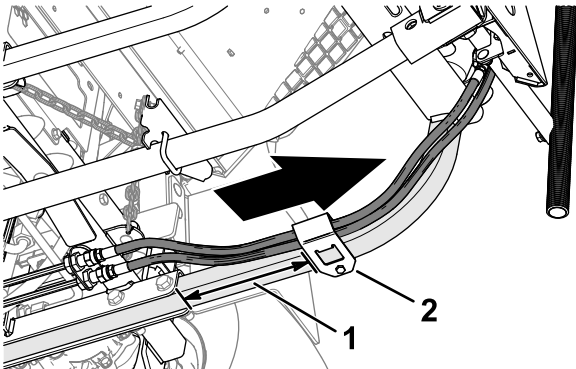

Figure 17
3. Route the cylinder and hoses to the back of the lift frame (Figure 17).
4. Install the hose guard around the hoses 9 cm (3.5 inches) from the rear tube channel as shown in Figure 17.